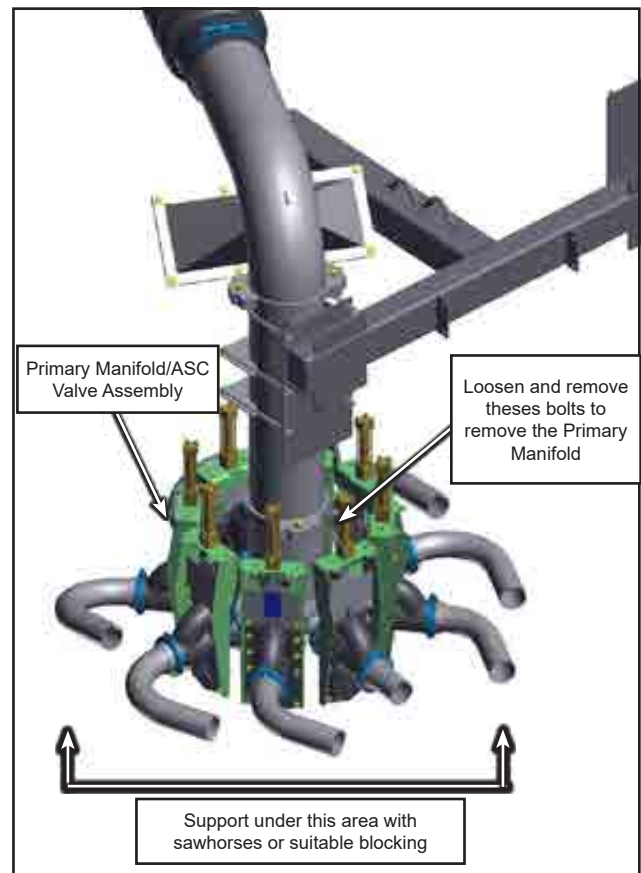

Figure 1.17 - Primary Manifold - Removal
5. To replace the inserts, the primary manifold will have to be unbolted from the bottom of the vertical pipe. Refer to *Figure 1.17*.
- c. Loosen and remove the bolts shown in *Figure 1.17*.